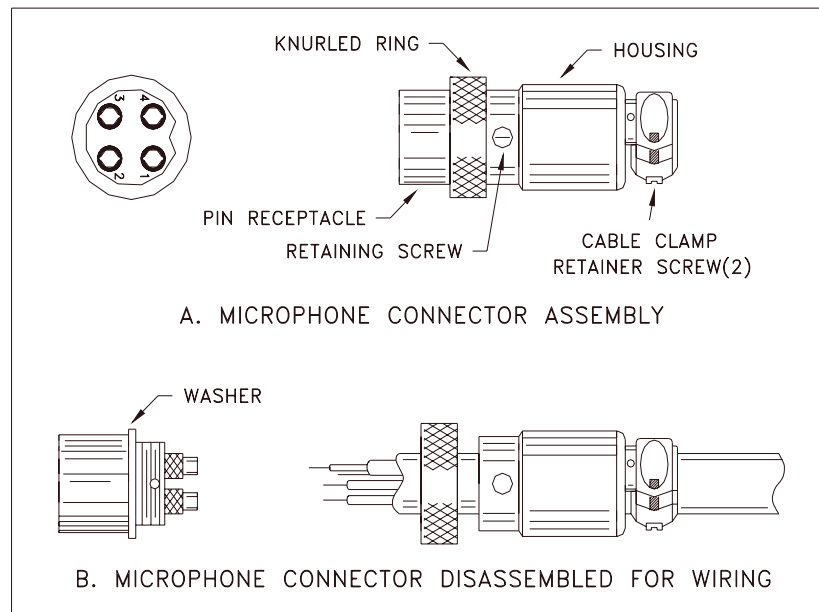

Fig. 2 Microphone plug wiring
4. Feed the microphone cable through the housing, knurled ring and washer as shown Figure 2.
6. Be sure that the housing and the knurled ring of Figure 2 are pushed back onto the microphone cable before starting to solder. If the washer is not captive to the pin receptacle body, make sure that it is placed on the threaded portion of the pin receptacle body before soldering.